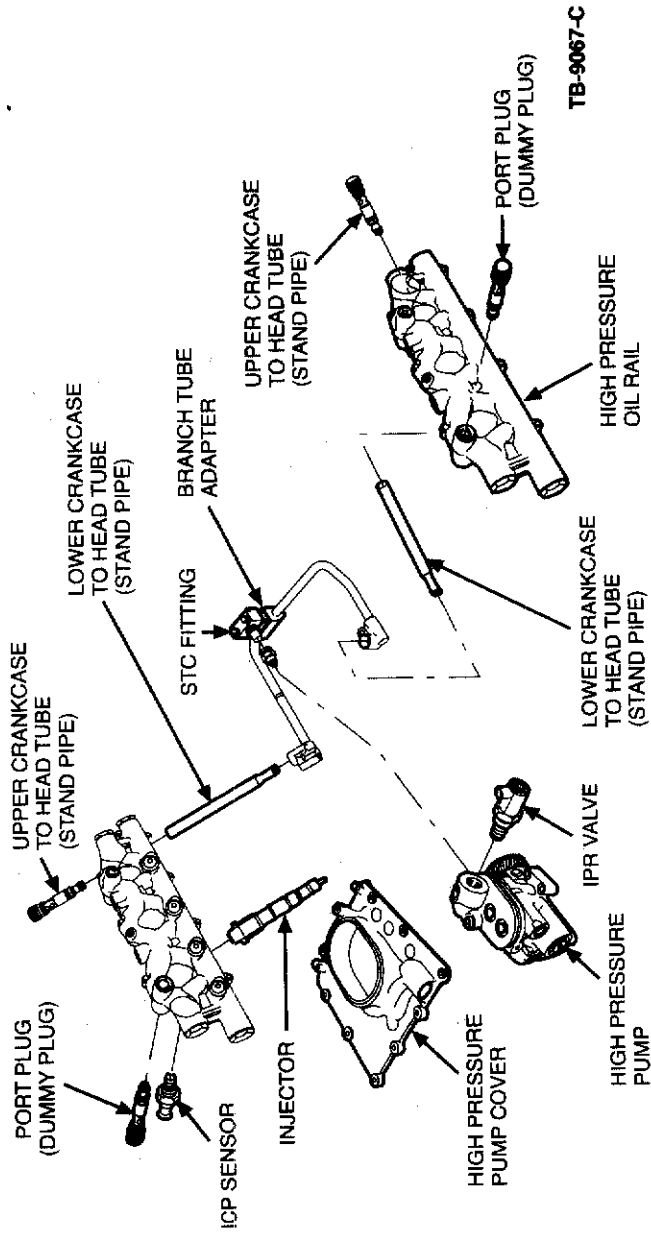

Figure 12 - Article 08-9-9
5. Remove the port plugs and inspect for damage, if damaged replace the port plugs. Refer to (Figure 12)
9. Rotate engine one (1) full revolution, see WSM, Section 303-01C rocker arm removal procedure.